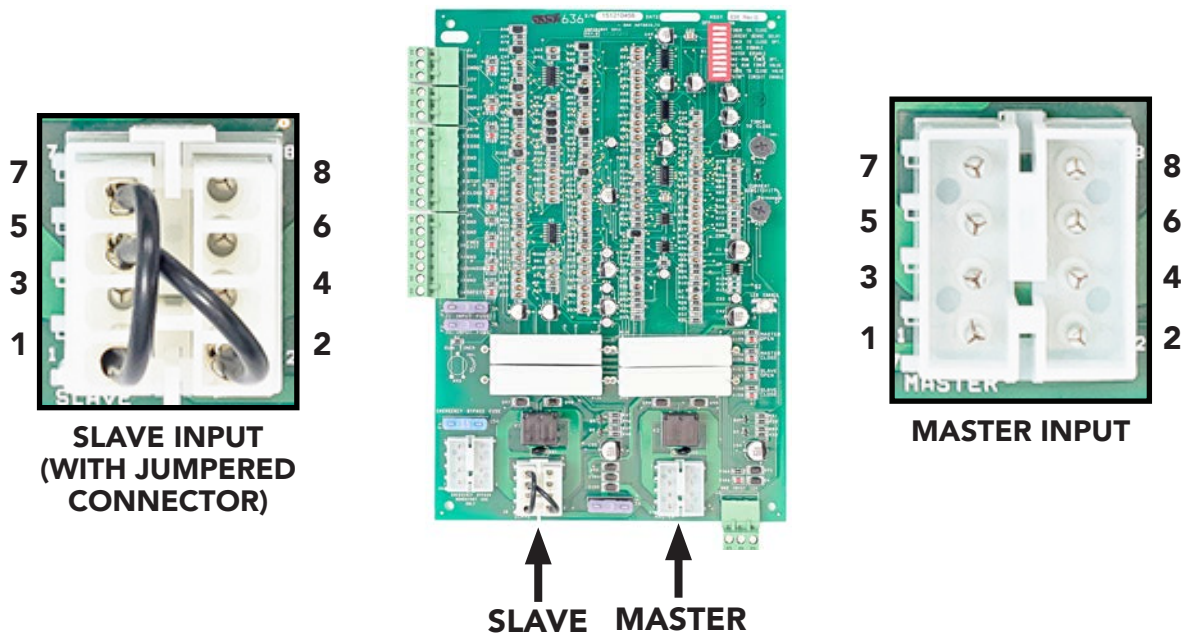

FIGURE 8-1: ACTUATOR CONNECTORS
There are two actuator input connectors on the 636 control board, MASTER and SLAVE. The MASTER connector is used for single gate systems, and the SLAVE is used when a second actuator is used for a dual gate configuration. For a single gate system, the unused SLAVE connector is populated by a connector with jumpers (FIGURE 8-1). Pull-to-Open (Standard) and Push-to-Open configurations use different wiring in the actuator harness/connector to reverse limit detection (PINS 1 & 2) and motor direction (PINS 3 & 4).
NOTE: The unused SLAVE connector is populated with jumpered connector for single gate system, as shown in FIGURE 8-1. This jumpered connector is removed if the SLAVE connector is used for a second actuator.
1. Locate the MASTER and SLAVE input connectors on the 636 control board per FIGURE 8-1.